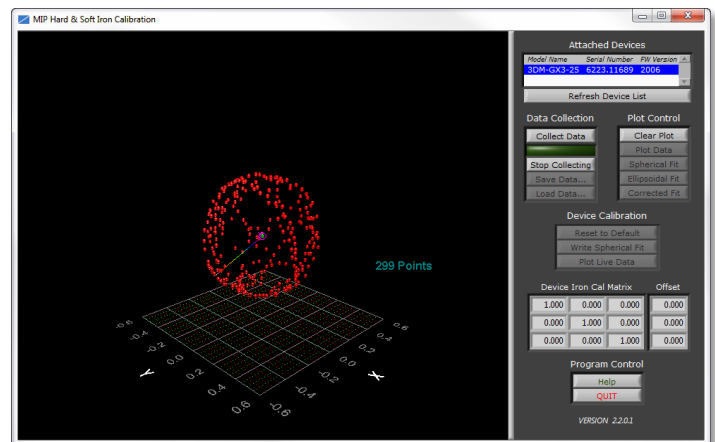

Figure 2: Points Plotting During Collect Data
7. Verify that points are now being plotted in the 3D graph, as shown in Figure 2